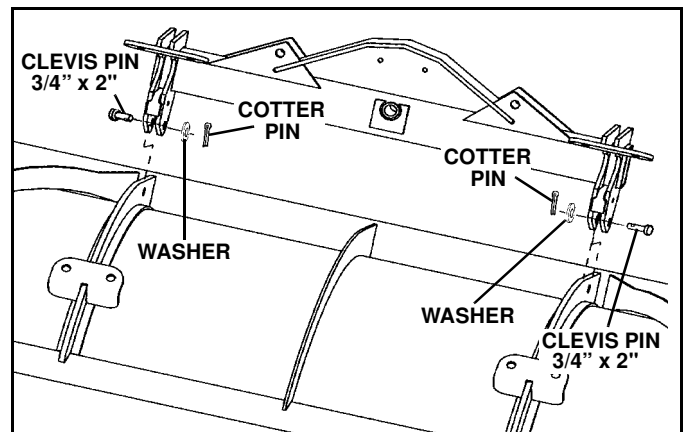

Figure 1-5
4. Place swing frame on blade and insert 3/4" x 2" clevis pin from blade parts bag. The ribs on either side of the center rib should be between the swing frame lugs. (See Figure 1-5)